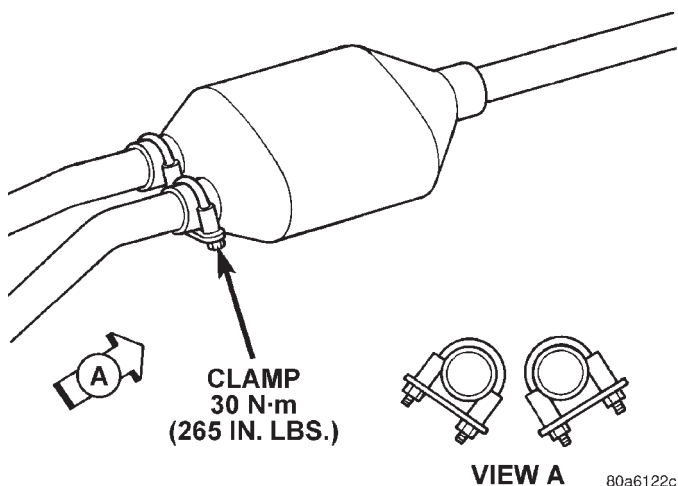

Fig. 7 Exhaust Down Pipe to Catalytic Converter Clamp Orientation
- (1) Install and loose assemble the front pipes to the exhaust manifolds and the transmission support bracket.
- (2) Place the exhaust module onto two supports (one under the under floor catalytic converter, one under the muffler). Slide the module forward onto the front pipes until the front of the under floor converter inlet bushings are touching the positive stop tabs on the front pipes.
- (3) Install the module's rubber isolators onto the body brackets.
- (4) Visually inspect the isolators. They should be straight when viewing from front to back of the vehicle. Working from the front of system, align each component to maintain position and proper clearance with underbody parts.
- (5) Orientate and tighten all clamps and supports to the proper torques and clearances (Fig. 7).
- (6) Lower the vehicle.
- (1) Remove the exhaust system. Refer to procedure outlined in this section.
- (2) Apply penetrating oil and loosen the band clamps that fasten the front pipes to the inlet bushings of the under floor converter (Fig. 7).
(1) Install and loose assemble the front pipes to the exhaust manifolds and the transmission support bracket.
(2) Install exhaust system. Refer to procedure outlined in this section.
(3) Position clamps and tighten to specification (Fig. 7).